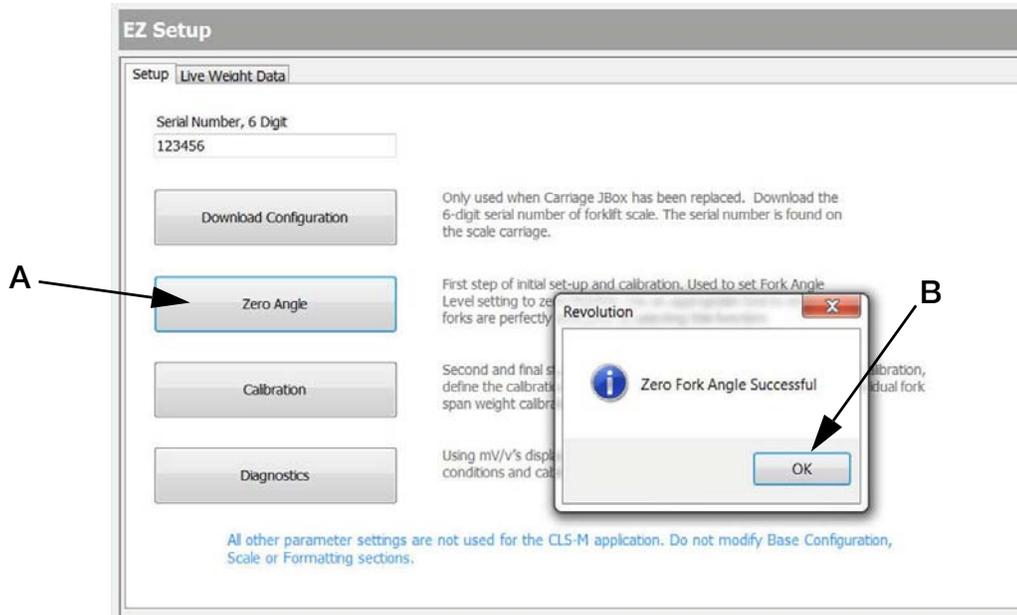

Figure 4-21. Zero Forks
2. In the setup screen, press *Zero Angle* (Fig 4-21 A).
3. A pop-up appears as shown in (Fig 4-21 B), press *OK* to close pop-up box.